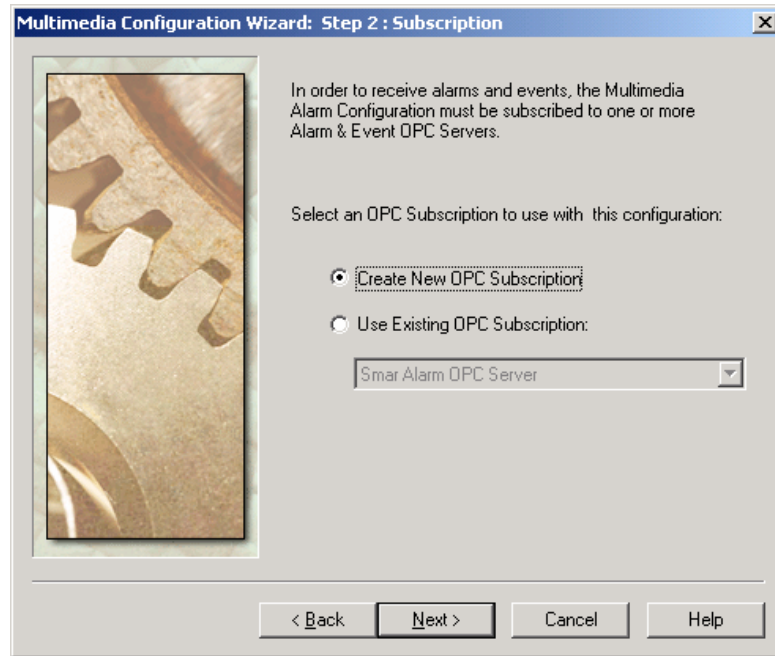

Figure 3.3. Step 2: Selecting an OPC Subscription
2. In Step 2, you must select an OPC subscription to use with the configuration. You have the option of creating a new OPC subscription or selecting an existing one. An **OPC subscription** is a connection to a local or remote alarm OPC server. **Create New OPC Subscription** is selected by default, as shown in **Figure 3.3**. Click **Next** to continue to Step 3.